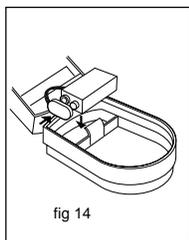

fig 14
- Clip a 9V PP3 (6LR61) ALKALINE battery to the connector and place the battery in its holder (see fig 14).